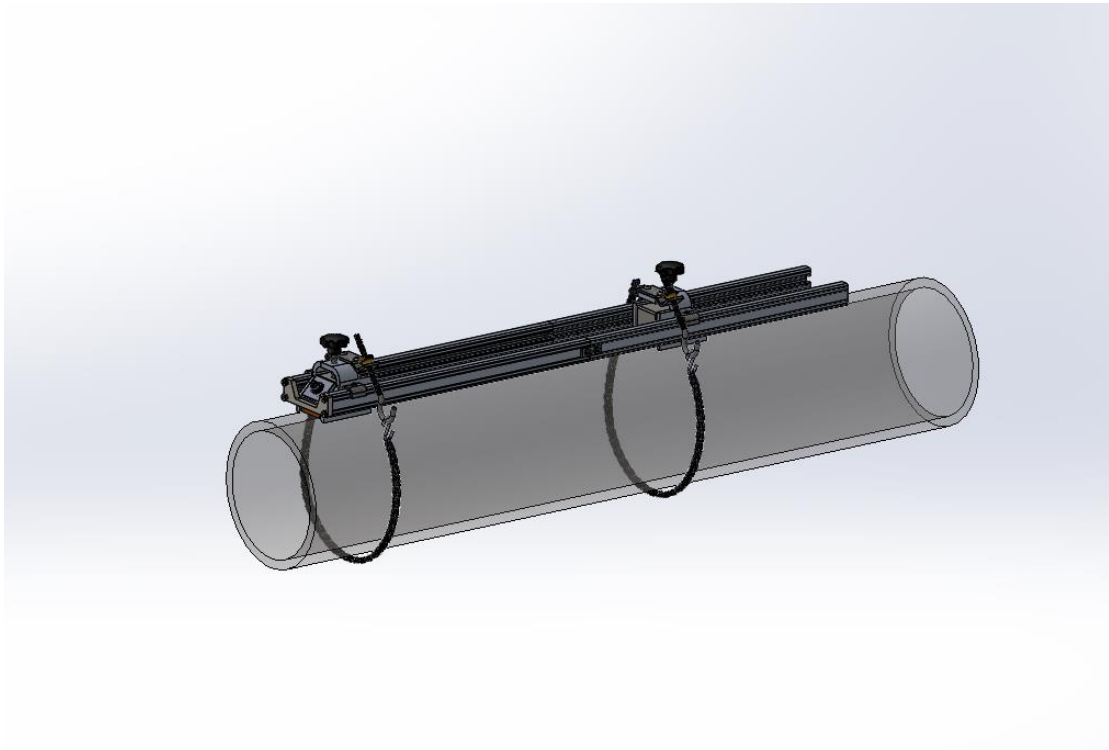

Figure 2-4. Large Rail/Fixture System
3. String the mounting chains from the front adjustable hook to the rear attachment hook for both chains as show in Figure 2-4. Start with a loose fit.